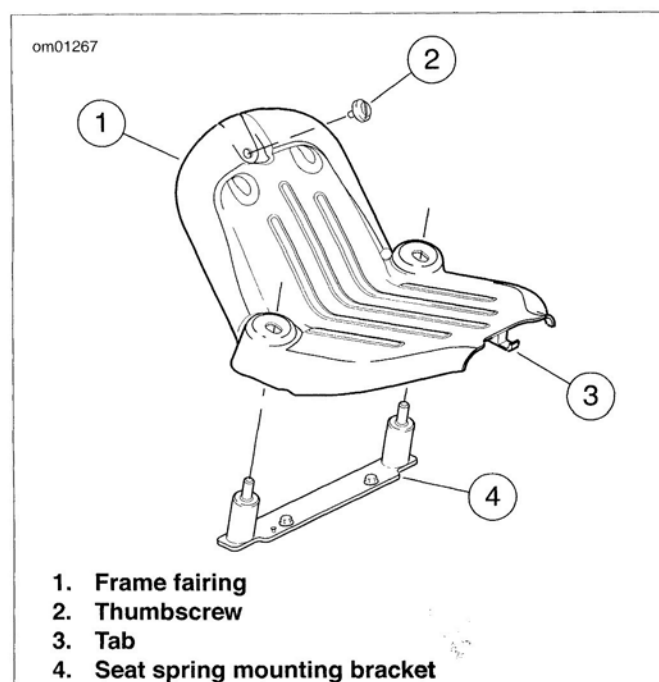

Figure 1-59. Frame Fairing: FLSTSB Models
3. **FLSTSB models:** see Figure 1-59. Remove thumbscrew (2) and frame fairing (1).